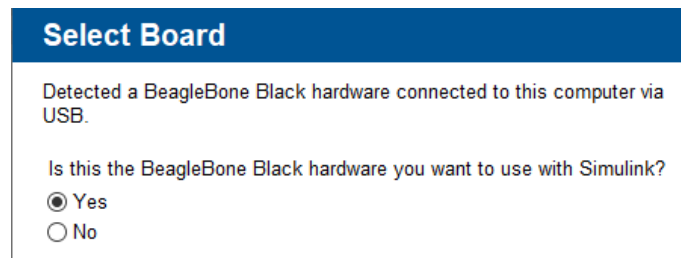

Figure 12 - Yes window
- Select “YES” and push “NEXT” (see Figure 12).